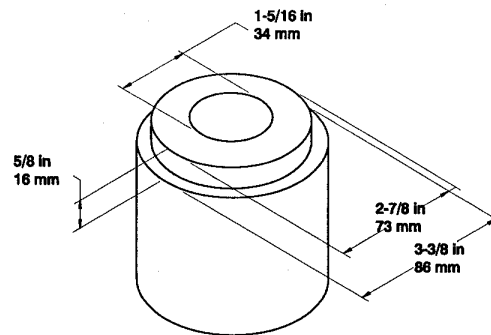

Figure 2.
The best way to assemble the flow sleeve (39), automatic valve body (53) and piston (47) is by using an assembly fixture such as that shown in figure 2. The fixture permits the parts to be stacked vertically during the assembly process. After the parts are stacked, the handle assembly can then be placed on top of the stacked parts and tapped into place.
The assembly fixture shown in figure 2 should be constructed of aluminum or brass and should be at least 3-1/2 in/88 mm high but no more than 8 in/203 mm high.
assembly fixture shown in figure 2. If a fixture cannot be acquired, use an assembled foot assembly and clamp it into a vice.
1. Lubricate the flow sleeve (39) and install it into the flow sleeve tube (63). Orientation is as shown in the parts illustration. The flow sleeve has a wide groove around the outside of one end. Install this end first. Then place the flow sleeve tube and flow sleeve on top of the assembly fixture shown in figure 2.
2. Apply grease and install an o-ring (38) onto the flow sleeve tube.
3. Apply lubricant and install 4 push pins (56) into the holes in the top of the flow sleeve tube. One end of each push pin contains a machined surface. This surface must be facing up as each push pin is installed. Each push pin must slide freely in or out of the hole in the flow sleeve. If a push pin does not slide freely or seems to stick, the hole may contain contamination or the top edge of the hole contains a burr. Remove burrs with a deburring tool, clean the hole thoroughly and try the push pin again.
4. Tap the roll pin (43) into the hole on the automatic valve body (53).
5. Apply grease and install an o-ring (38) onto the valve body (53).
6. Lubricate and install 2 push pins (43) into the holes in the valve body. One end of each push pin contains a machined surface. This surface must be facing up as each push pin is installed. Each push pin must slide freely in or out of the hole in the valve body. If a push pin does not slide freely or seems to stick, the hole may contain contamination or the top edge of the hole contains a burr. Remove burrs with